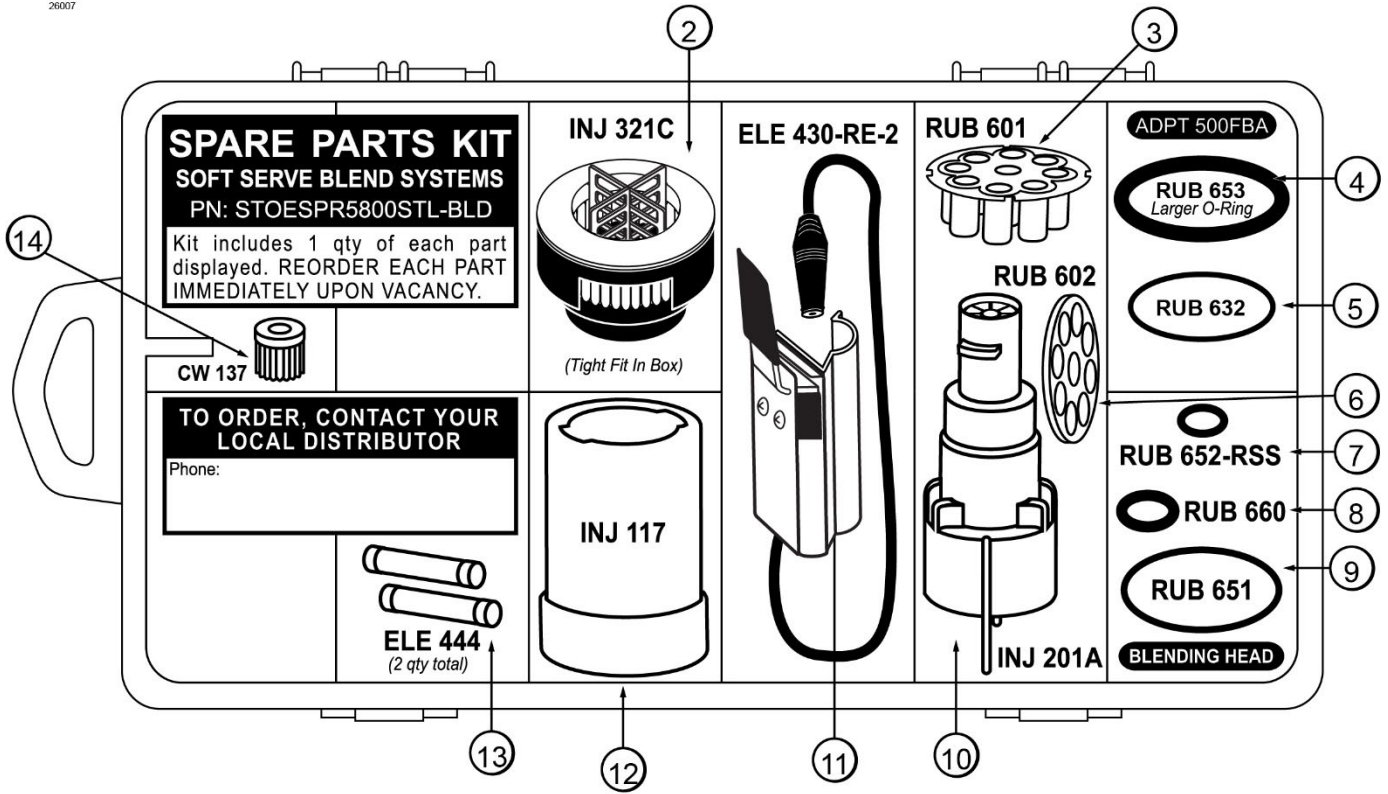

Figure 7
**Spare Parts Kit (See Figure 7)**